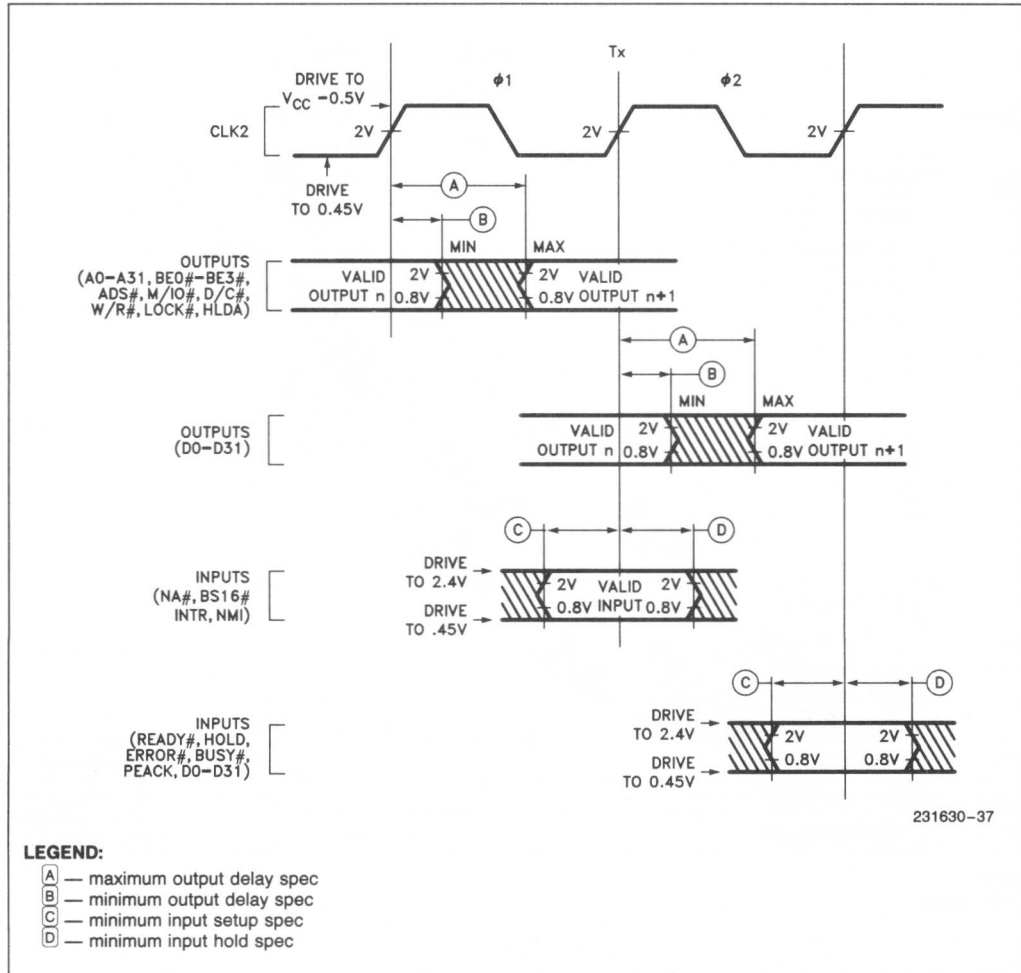

Figure 7-1. Drive Levels and Measurement Points for A.C. Specifications
A.C. spec measurement is defined by Figure 7-1. Inputs must be driven to the voltage levels indicated by Figure 7-1 when A.C. specifications are measured. 80386 output delays are specified with minimum and maximum limits, measured as shown. The